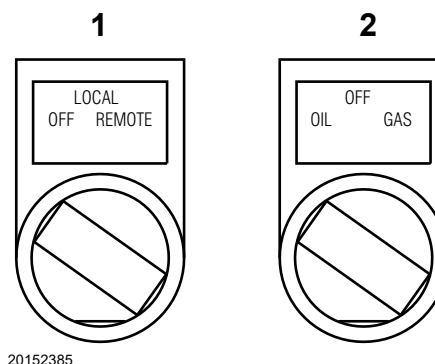

Fig. 46
- 1 using switch 2)(Fig. 46);
By setting switch 1)(Fig. 46), to “remote” you activate the remote fuel selection facility.
Set switch 1)(Fig. 46) to "LOCAL".
Set switch 2)(Fig. 46) to the correct fuel.